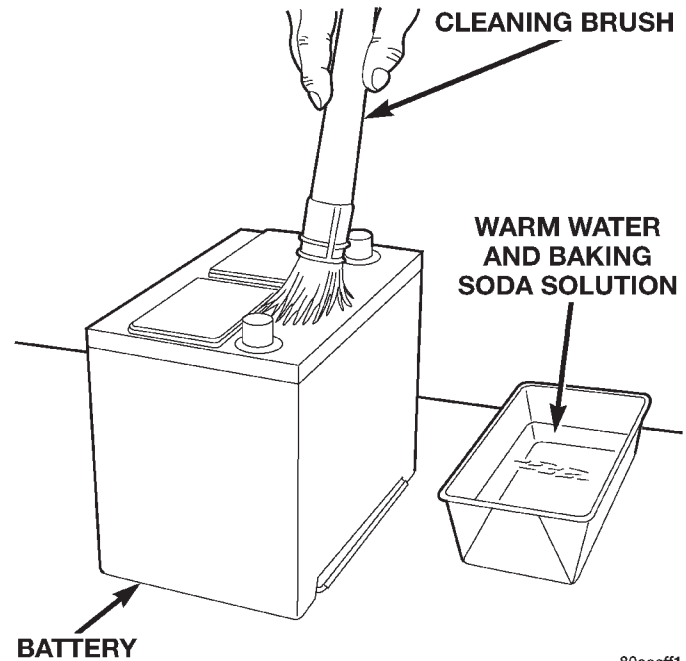

Fig. 19 Clean Battery - Typical
(8) If the battery is to be reinstalled, clean the outside of the battery case and the top cover with a sodium bicarbonate (baking soda) and warm water cleaning solution to remove any acid film (Fig. 19). Rinse the battery with clean water. Ensure that the cleaning solution does not enter the battery cells through the vent holes. If the battery is being replaced, see the Battery Ratings and Classifications chart in the Specifications section of this group. Confirm that the replacement battery is the correct size and has the correct ratings for the vehicle.